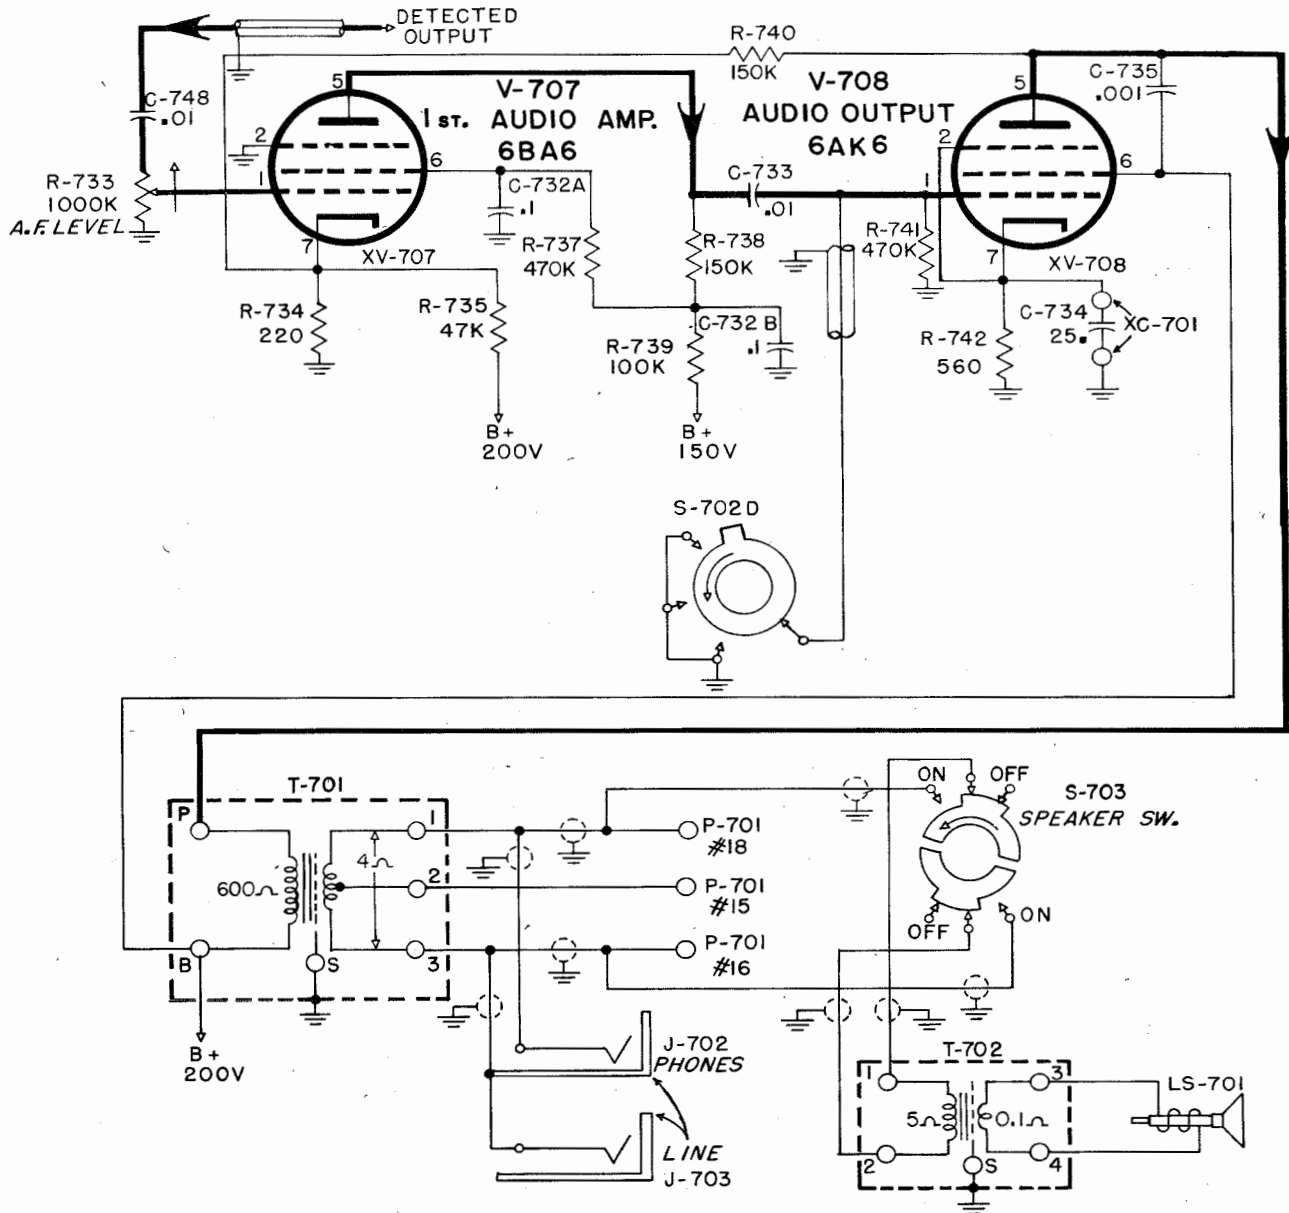

Figure 2-34. Audio Frequency Amplifier Stages V-707, V-708, Simplified Schematic Diagram
(1) AUDIO AMPLIFIER CIRCUITS, V-707 AND V-708 (AM-439/FRR-24). (See Figure 2-34).—The audio frequency amplifier consists of two stages of amplification using inverse feedback from the plate of
**Paragraph 3 m (1)**